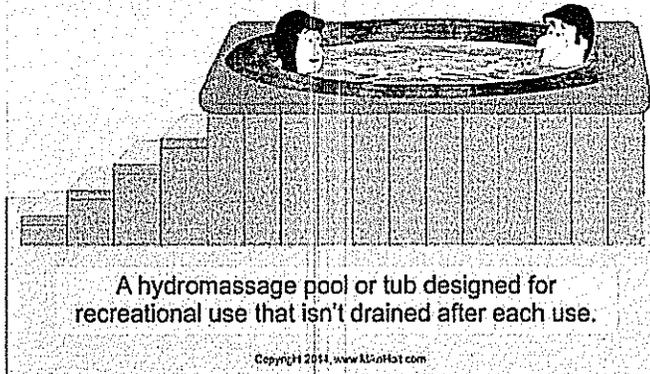

Figure 680-7
**Spa or Hot Tub.** A hydromassage pool or tub designed for recreational or therapeutic use typically not drained after each use. Figure 680-7